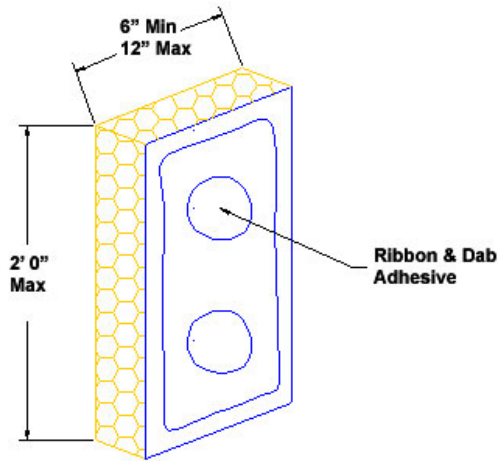

Figure 22
- c. Apply the adhesive mixture to the back side of the Closure Blocks using a ribbon and dab pattern as shown in Figure 22 and position on the wall.
- f. Apply the adhesive mixture to the back side of the Closure Blocks/Starter Strips using a ribbon and dab pattern as shown in Figure 22 and position on the wall.